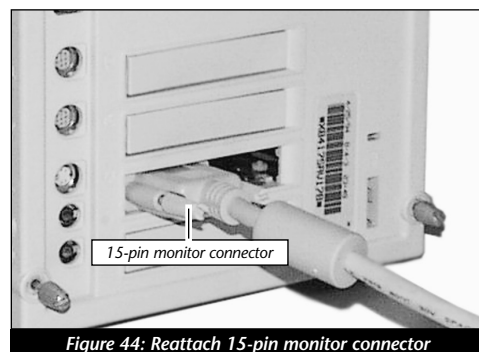

Figure 44: Reattach 15-pin monitor connector
18. **IMPORTANT!** – Before replacing the cover onto your computer, attach your monitor's video cable to the AV or HPV card 15-pin monitor connector (**Figure 44**). Secure the cable by tightening the thumbscrews on the cable's connector. Connecting the cable anchors the card in place while replacing the cover.